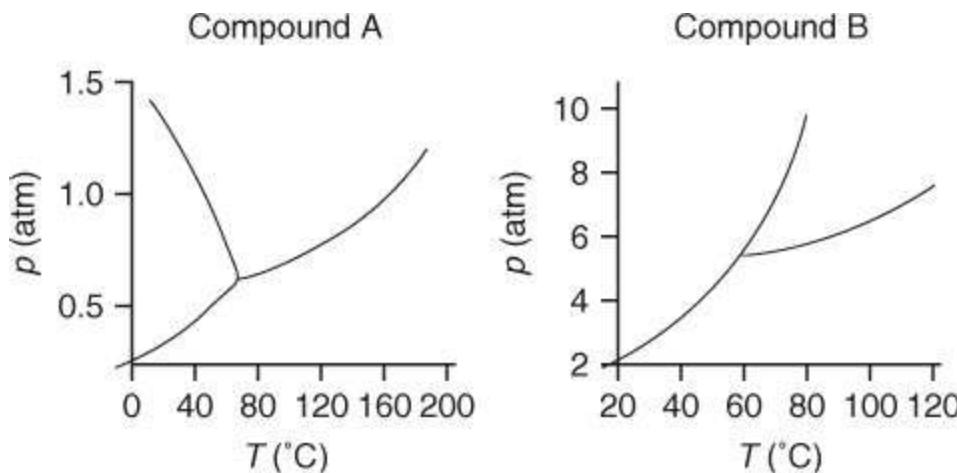

Figure P8.2.9
**8.2.9. Based on the phase diagrams in Figure P8.2.9, answer the questions and explain your answers.